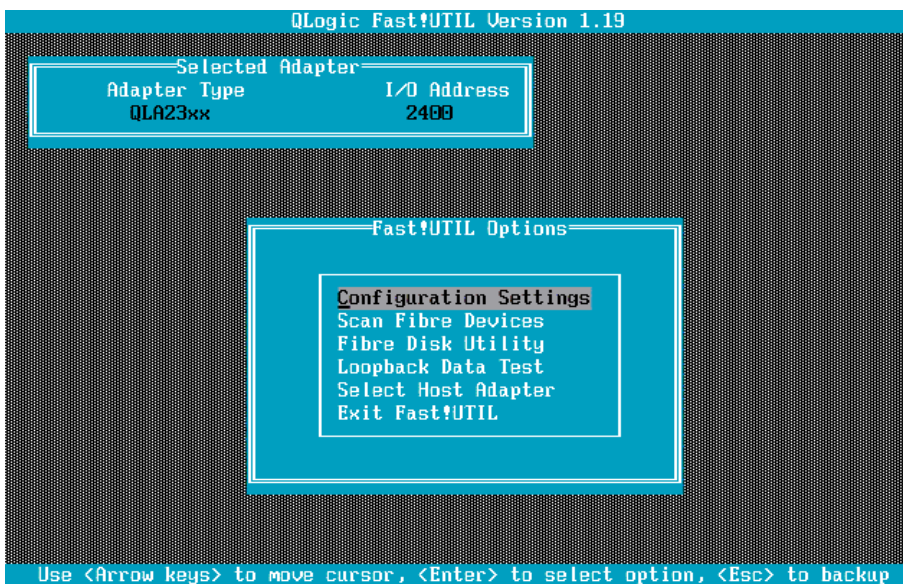

Figure 93. Fast!UTIL Options
2. The screen shown in Figure 93 is displayed. Select Configuration Settings and press Enter.